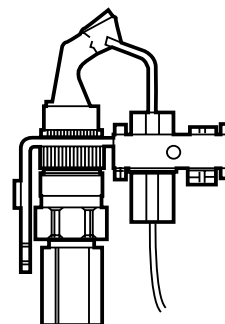
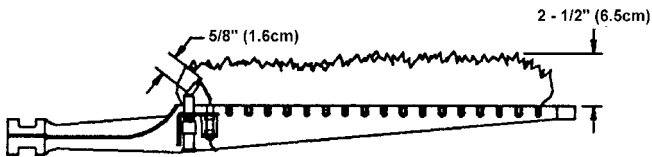

FIGURE 16
FIGURE 17
At least once a year, check the pilot burner, fig. 16, and the main burner, fig. 17, for proper operation. Refer to the following pilot and main burner sections.
- The pilot flame should envelop sensing device with 5/8" (1.6cm) flame, fig. 17. Remove pilot adjustment cover screw, fig. 16. Turn inner adjustment screw clockwise to decrease, or counterclockwise to increase pilot flame. Be sure to replace cover screw on gas valve after adjustment to prevent possible gas leakage.
The main burner, fig. 17, should display the following characteristics: